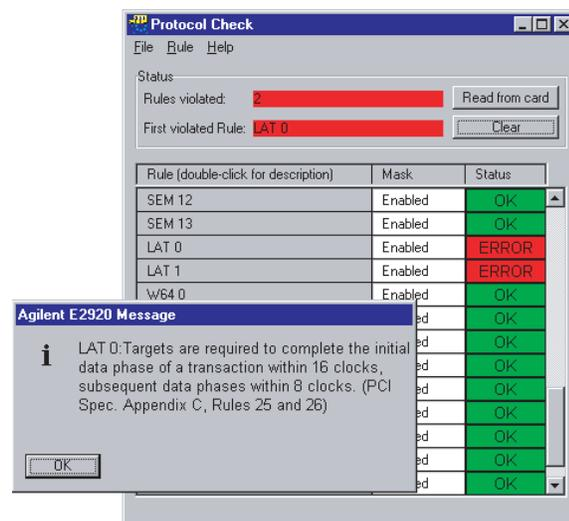

Figure 1.
- Double-click any rule name field to get an explanation of what that rule checks. The message box in the above figure 1 shows the rule for LAT 0 (latency 0).